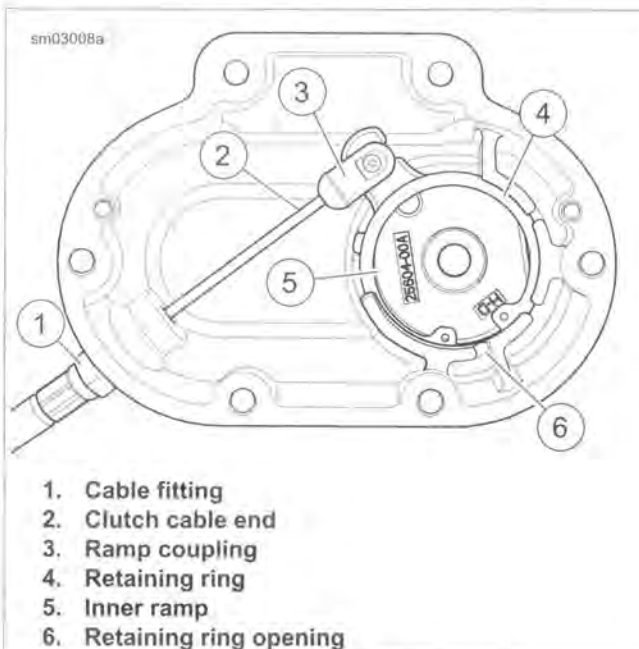

Figure 2-120. Clutch Cable Connection
4. See Figure 2-120. Note position of retaining ring opening (6). Retaining ring opening must be positioned in approximately the same location during assembly. Remove retaining ring (4).
5. Pull inner ramp and ramp coupling (3) out of side cover. Hold inner and outer ramps together to keep balls from falling free.
6. Rotate the inner ramp to a position which allows the coupling to be disconnected from the inner ramp lever arm. Disconnect coupling from inner ramp. Disconnect clutch cable end (2) from coupling.
7. Unscrew cable fitting (1) from side cover.
1. See Figure 2-120. Apply a drop of LOCTITE 243 MEDIUM STRENGTH THREADLOCKER AND SEALANT (blue) to clutch cable fitting (1). Screw fitting (with O-ring) into clutch release cover. Leave fasteners loose.
2. Connect cable end to ramp coupling (3). Rotate ramps for best access. Install coupling on inner ramp. Place ramp assembly in position in side cover.